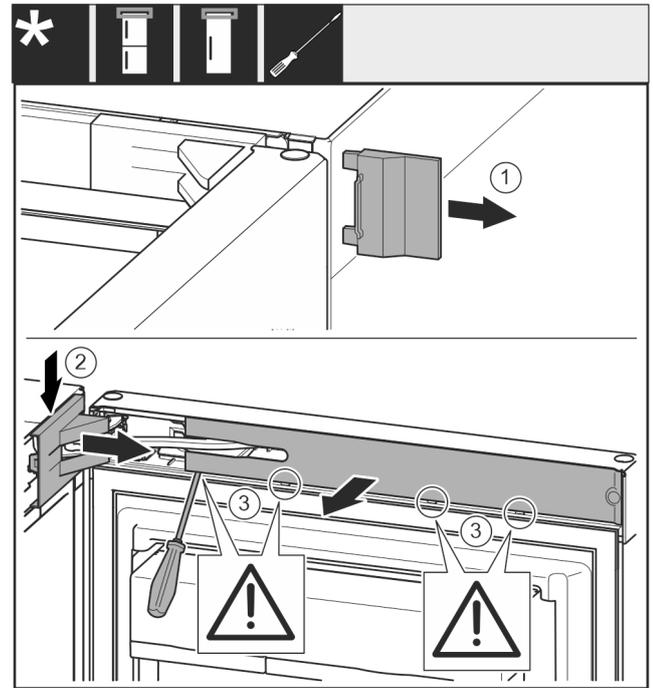

Fig. 11
- Remove cover Fig. 11 (1).
- Disengage and loosen the swap bearing block cover Fig. 11 (2).
- Remove the swap bearing block cover Fig. 11 (2).
- Use a slotted screwdriver to unlatch the trim Fig. 11 (3) and swing it to the side.